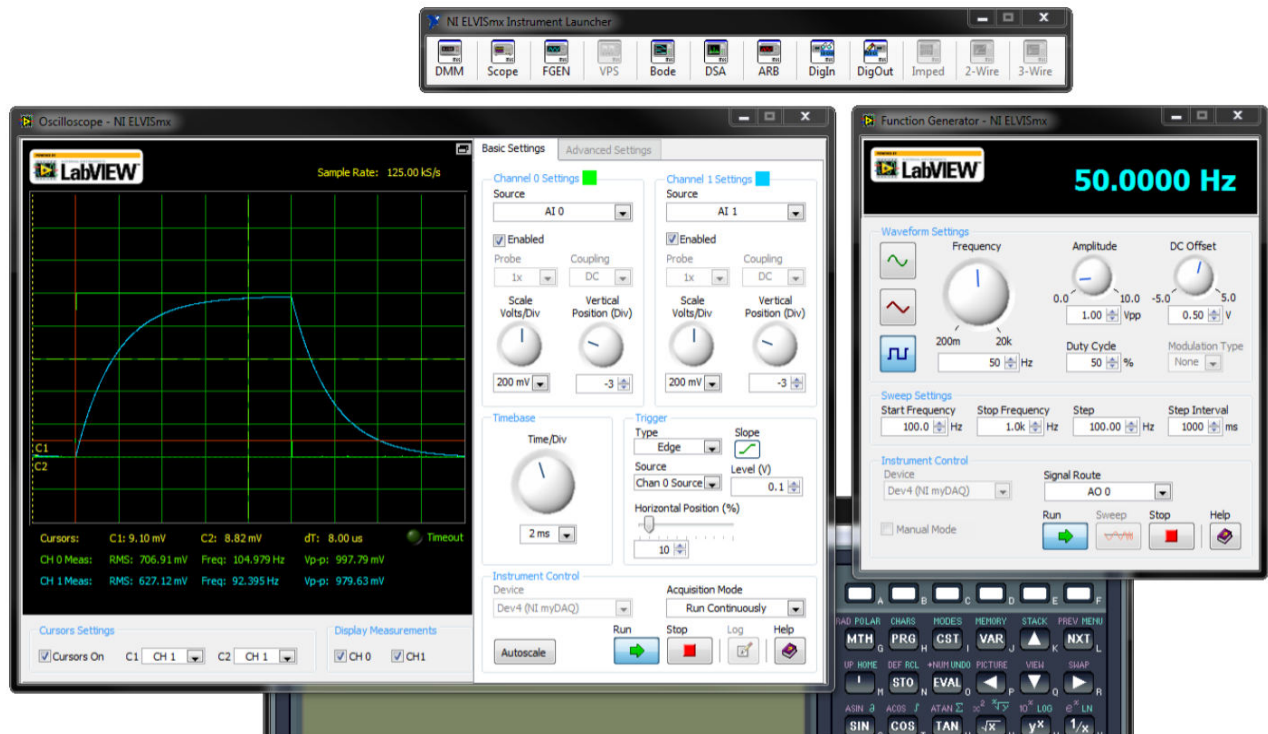

Figure 5. Oscilloscope Interface (left) and Function Generator (right)
- Double click on FGEN to launch the function generator. Double click on Scope to launch the oscilloscope. A sample screen shot of the myDAQ instruments and the launcher is shown in Figure 5 below.